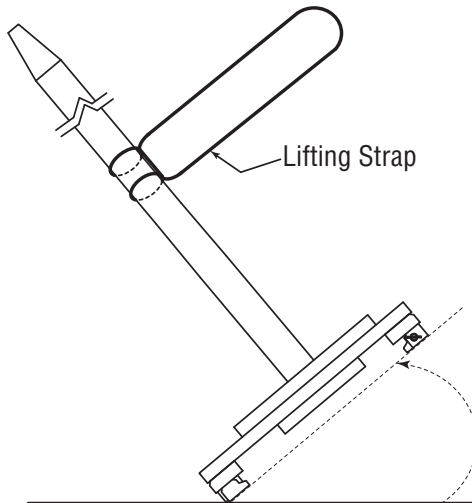

Figure 5-4, Lifting
5. Secure the detachable ram with an appropriately rated strap in a choke-loop around ram (See Figure 5-4). Tilt and lower the assembly until the ram is parallel to the floor.